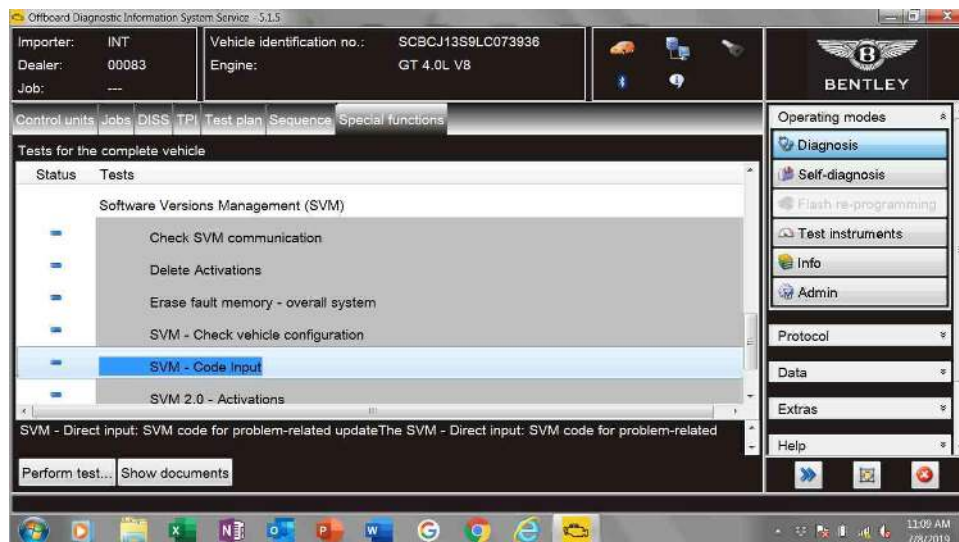

Figure 1
- Because of the highest transmission stability we recommend the use of the diagnosis interface VAS 6154 (WiFi diagnostic tool) only in the USB operation or the cable-connected VAS 5055 for the reprogramming (updating) of control units. If these units are not available, the diagnosis interface VAS 5054 (A) can also be used in USB mode
1. Select and run Guided fault finding. Within the Special functions tab select SVM – Code Input then select Perform test (Figure 1).